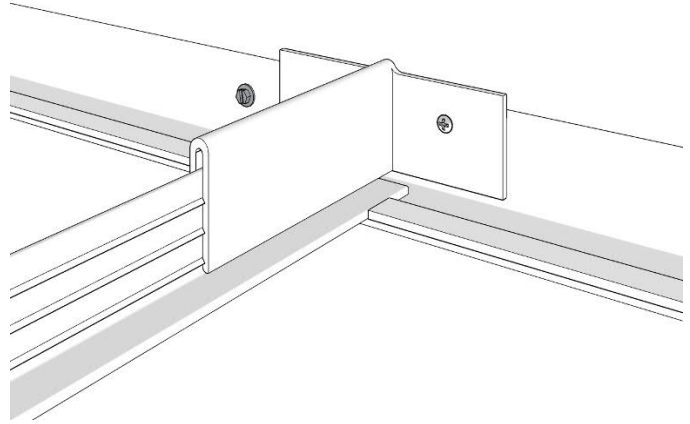

FIG. 27
3. The **Seismic T-Junction** introduces the **Seismic-Step**. **Mainrails** and **Crossrails** ride on the **Wallrail** ledge. This is the **Seismic-Step**. The **T-Clamp** should mount tight to the **Wallrail** and be securely attached to the wall to prevent shifting during the grid installation. This mounting **WILL NOT** provide a flush rail finish. Use appropriate fasteners for job conditions. The **Wallrail** will then be fitted with 1/8" (3 mm) **Closure Gasket** to provide a closed seal at the lay-in ceiling panel and the **Wallrail**. FIG. 27